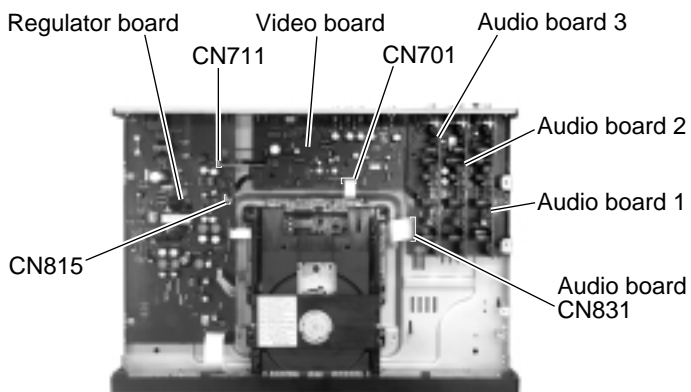

Fig.13
(See Fig.13 and 14)
■ **Removing the Audio board 1,2 and 3 / the Audio board** (See Fig.13,15 and 16)